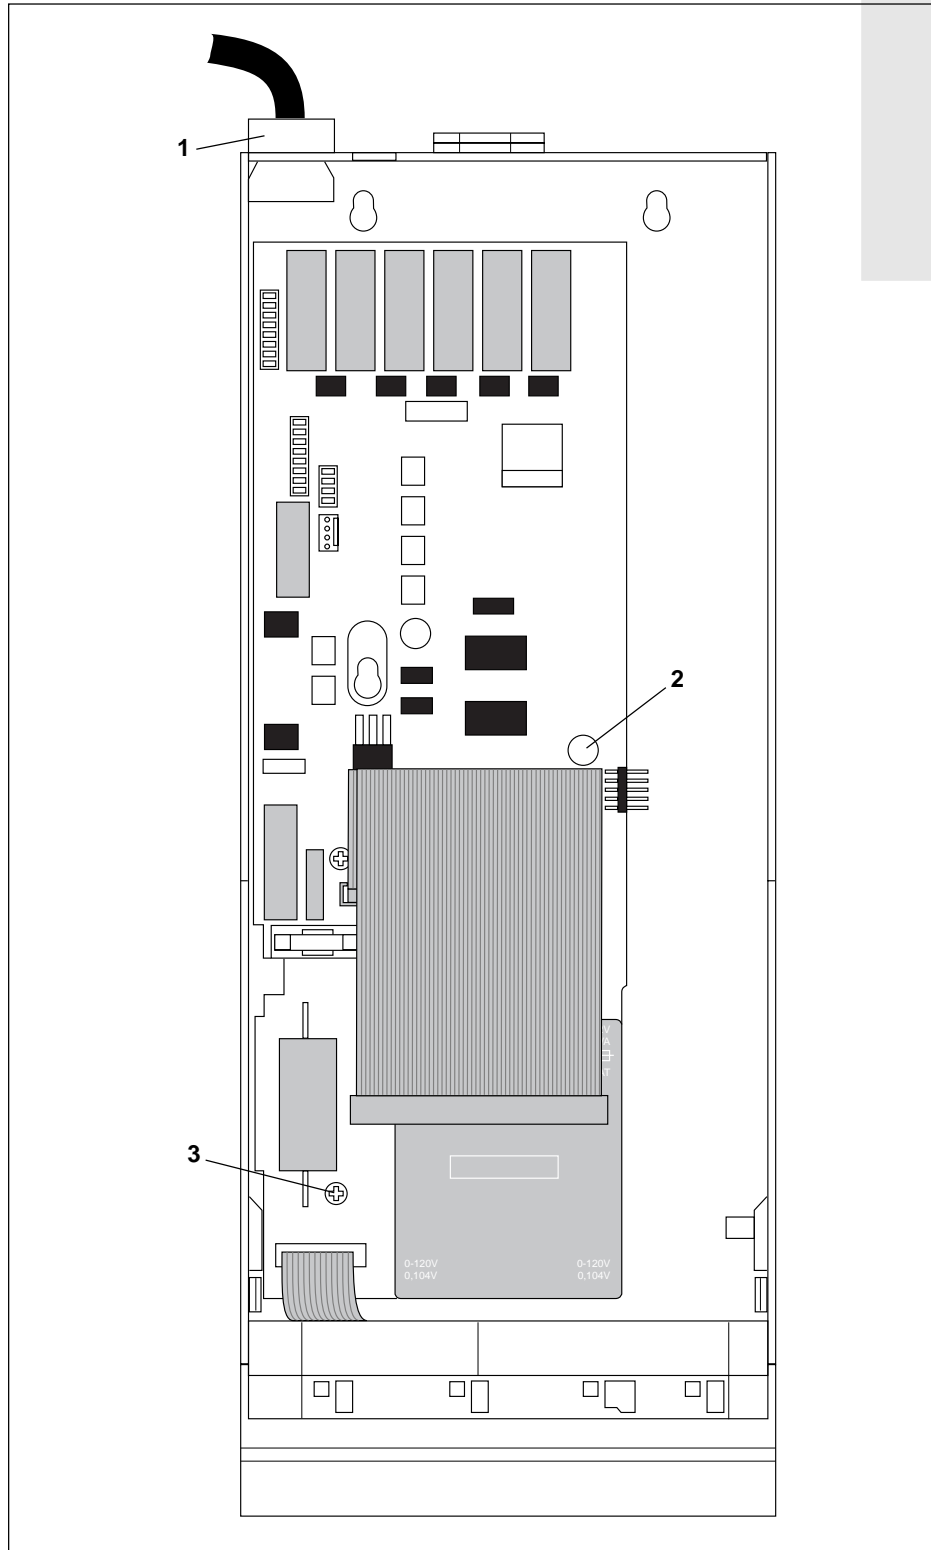

Fig. 18: Exchange interface module
5. If there is a dummy plug **(1)**, remove it from the housing then remove cable from cable passages in the housing towards the front (see fig. 18).
6. Remove screws **(2 + 3)** (see fig. 18).